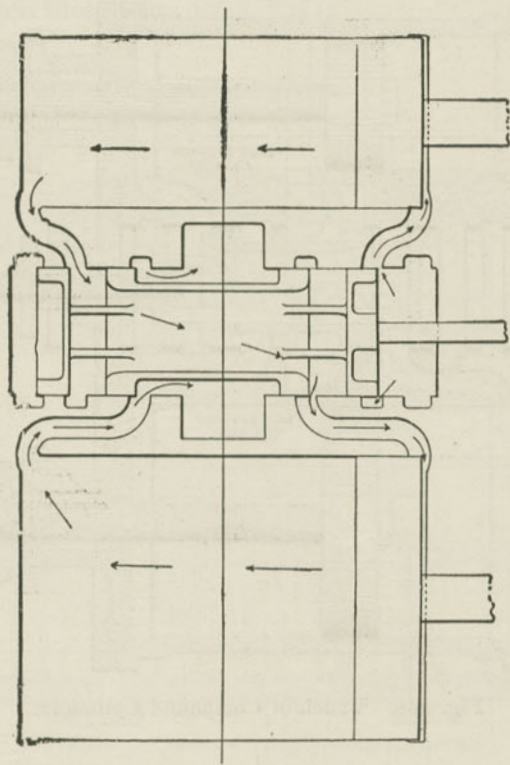
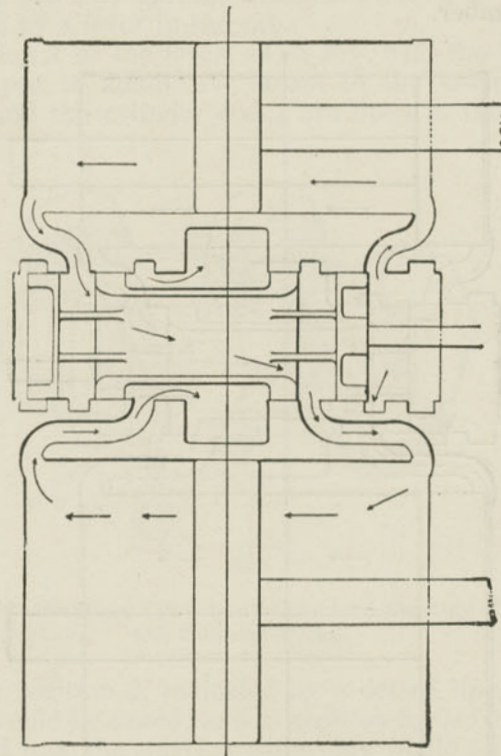
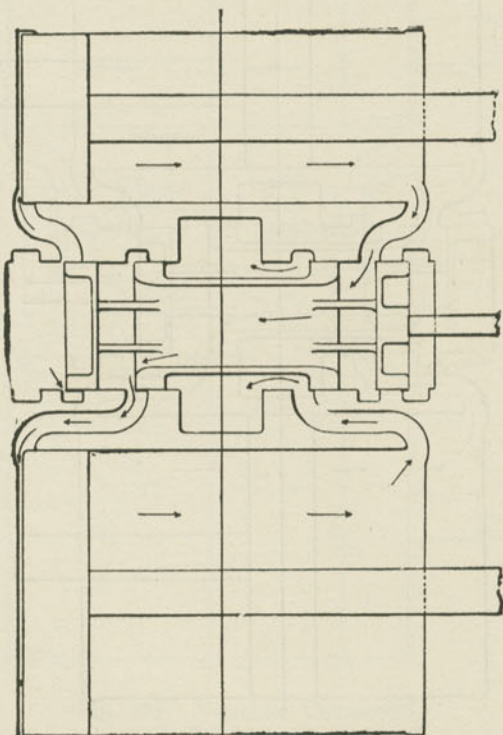

Fig. 339. Vauclain Compound.
Fig. 340. Vauclain Compound.
Fig. 341. Vaucrain Compound.
**A.** This type has four outside cylinders, the H. P. usually being above the low on each side (see Fig. 339,) and the valve chest for each side being inside and alongside of the cylinders. The valves are of the piston type, consist-
shown in Figs. 339, 340, and 341. In Fig. 339, both pistons are at the crosshead end or back end of the cylinder; in Fig. 340, both are at mid-stroke; in Fig. 341, both are at front or out ends; the arrows showing the direction of the live and exhaust steam in both pistons and in the valve chamber.